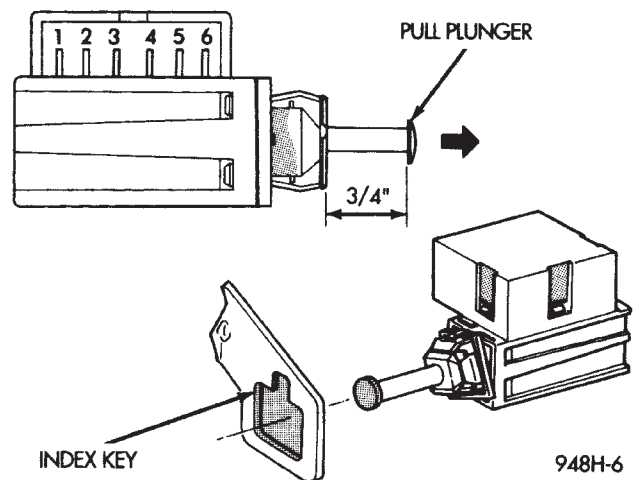

Fig. 4 Stop Lamp Wiring
(1) Remove the stop lamp switch refer to Stop Switch Removal/Installation in this section. Disconnect connector from stop lamp switch (Fig. 4). Using an ohmmeter, switch continuity may be checked as follows: